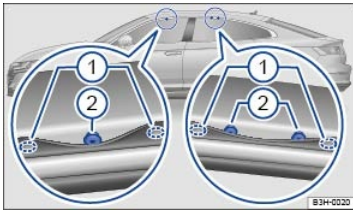

Fig. 157 Mounting points for the base carrier and roof rack.
There are two markings on the door seals ⇒ *Fig. 157* ① at the front and rear on each side of the vehicle.
The front and rear mounting points for the base carrier are on the underside of the roof frame between the markings ⇒ *Fig. 157* ② **under** the door seals.
- Secure the roof rack base carrier only at the attachment points shown in the illustration ⇒ *Fig. 157*.